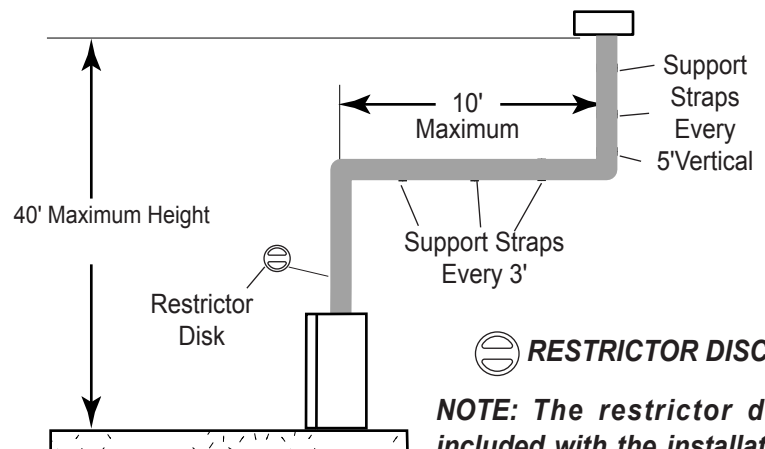

Figure 25- Support Straps for Horizontal Runs
- Vertical installations up to 40' in height. Up to a 10' (3m) horizontal vent run can be installed within the vent system using a maximum of two 90° elbows. See Figure 25.
NOTE: If an offset is needed to avoid obstructions, you must support the vent pipe every three (3) feet. Use wall straps for this purpose. See Figure 25, page 22. Whenever possible, use 45° elbows instead of 90° elbows. The 45° elbow offers less restriction to the flow of the ue gases and intake air.